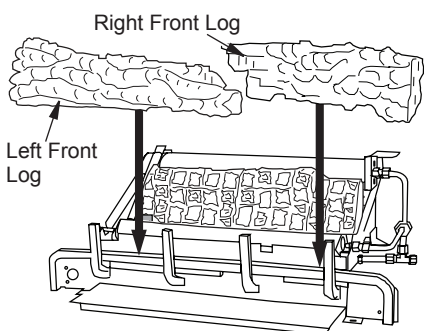

Figure 40 - Installing Left/Right Front Logs
- Place front left (18" D-064, 24" D-057 & 30" D-038) and front right (18" D-065, 24" D-058 & 30" D-039) logs as shown in Figure 40.